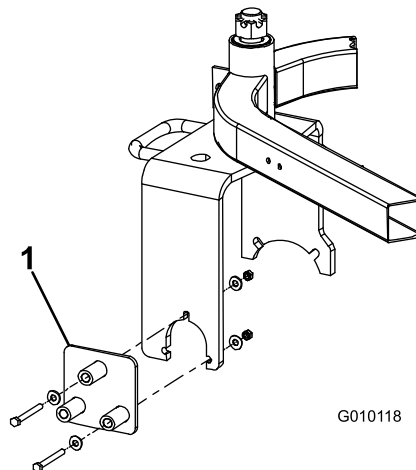

Figure 2
1. Mount the drill guide to the right side of the castor fork with (2) 5/16 x 3 inch bolts, (4) 3/8 x 7/8 washers and nuts. Position the components as shown in Figure 2.